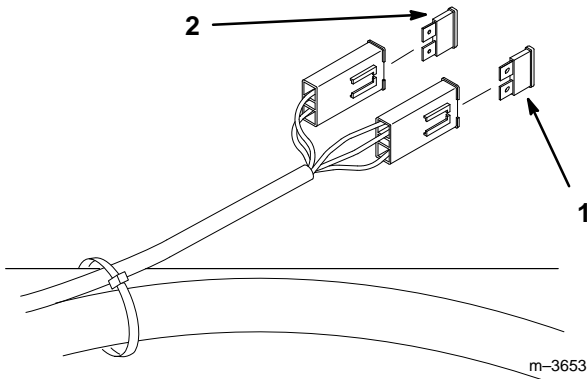

Figure 52
1. Raise the seat to gain access to fuse holder (Fig. 52).
2. To replace fuses pull out on the fuse to remove it (Fig. 52).